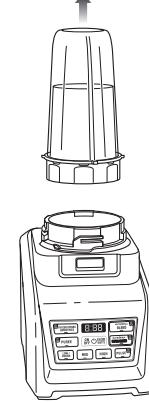

Fig. 7
- 10 Turn the cup upright and remove the Pro Extractor Blades Assembly by twisting the Pro Extractor Blades Assembly anticlockwise. (Fig. 7)